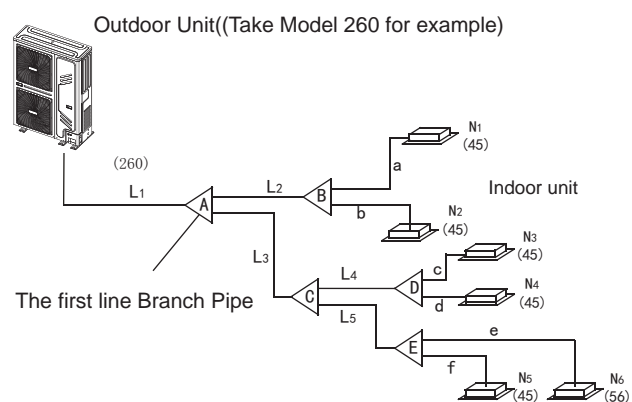

Fig.4-6
- Main pipe (Please refer to Fig.4-6 and Table 4-4)
- In Fig.4-6, the main pipe L1, the outdoor unit capacity is 26kW, and check the Fig.4-6 to get the size of gas pipe/liquid pipe is  $\Phi 22.2/\Phi 9.5$ , and also the total equivalent length of liquid side and gas side pipes is  $> 90m$ , then check the Table 4-4 to get the size of gas pipe/liquid pipe is  $\Phi 25.4/\Phi 9.5$ , and according to the maximum value principle, it should apply the  $\Phi 25.4/\Phi 9.5$ .